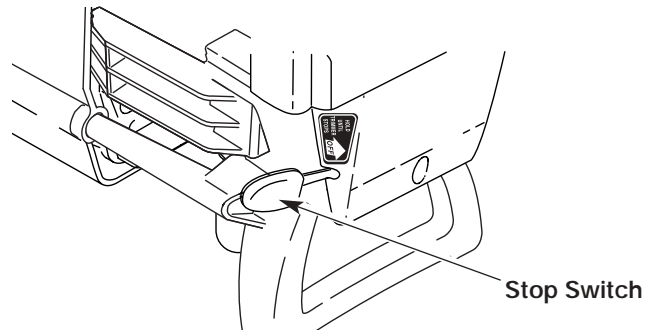

Fig. 6
2. Press and hold the Stop Switch until the engine stops (Fig 6).